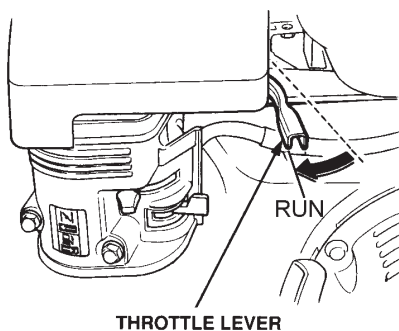

Figure 14. Throttle Lever (Run)
4. To begin mixing, place the throttle lever (Figure 14) in the "RUN" position.